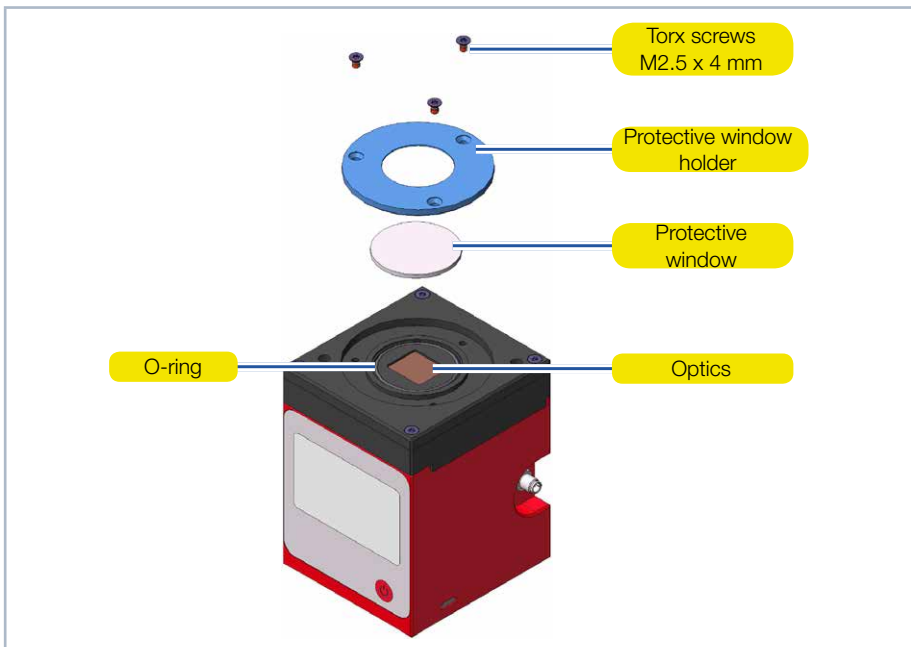

Fig. 13.1: Exchanging the protective window on the Cube M
3. Place the device as shown in Fig. 13.1 on page 28 and carefully remove the protective window holder upwards.
6. Place the protective window holder according to Fig. 13.1 on page 28.